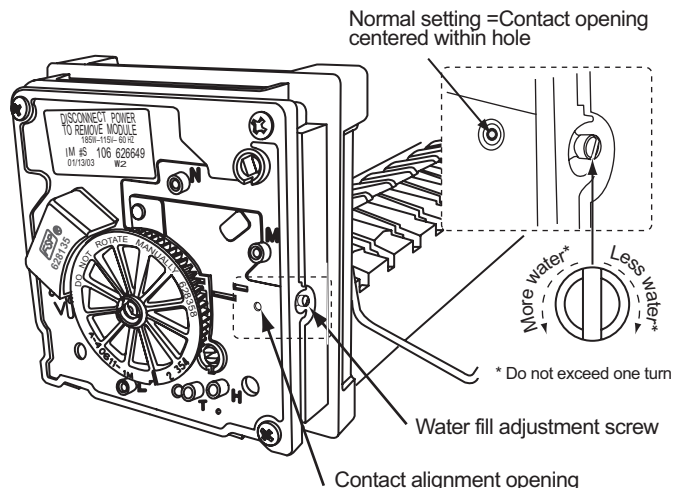

Figure 60. Water fill adjustment screw
5. Locate the screw and contact alignment opening shown in Figure 60.
7. To readjust the water fill level turn the adjustment screw clockwise or counterclockwise as required until the contact hole is centered in the module hole. See Figure 60.